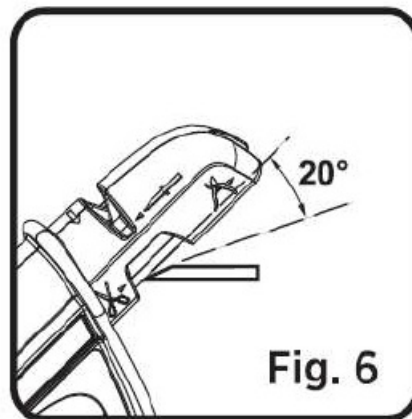

Fig. 6
- The angle between the edge being sharpened and ceramic rod D should be approximately 20 degrees. (See Fig. 6) Always maintain the angle and stroke this sharpener repeatedly along each side of the edge until the desired sharpness is obtained. Maintain constant pressure and follow the contour of the blade as you stroke. For those single-beveled blades such as blades of scissors, hedge shears, pruner & mowers, only sharpen the side of each blade that has a bevel.